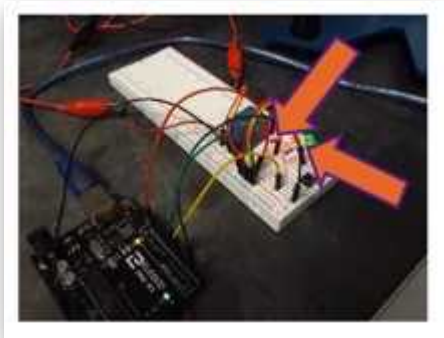

Figure 7D
- i. Push the black button on the breadboard. If nothing happens, push the black button again. The red light indicates that the board is on. The green light indicates that the current is flowing (shown in *figure 7D*). Bubbles will form around the copper rods.